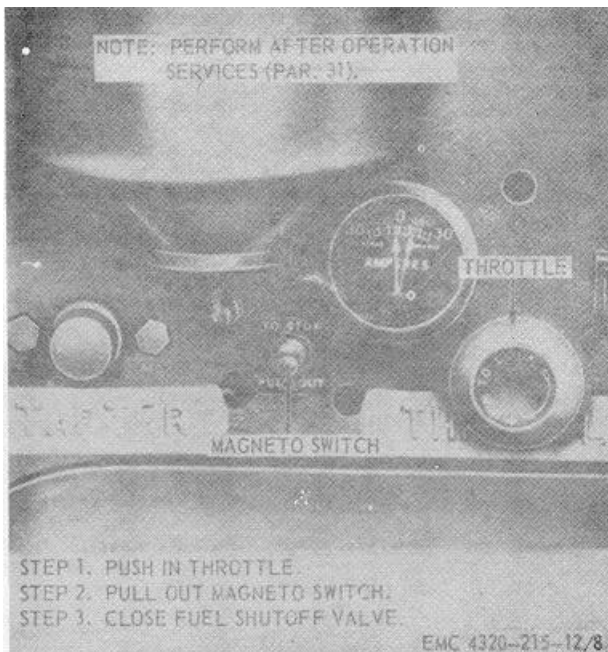

Figure 8. Engine stopping instructions.
j. Wiring Diagram. Refer to figure 8 for the practical wiring diagram for the electrical system.
Stop the engine as shown by figure 8.